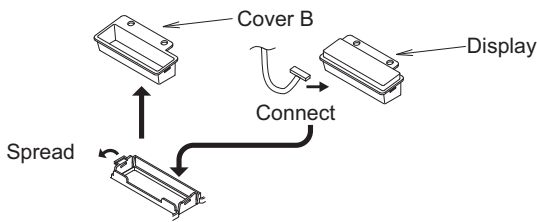

Fig. 8-21
- (1) Cover B is fit into Cover A, so spread the points as indicated in figure 8-21 and remove it. The tape holding cover B is only to protect it during transport, so remove it and throw it away.
- (2) Connect the wiring (W2) for the display that is sticking out from the operation panel and fit the display into the panel. Make sure the 6P white connector is firmly connected all the way in.